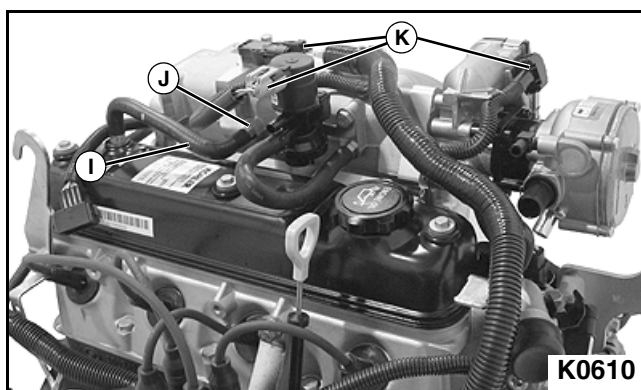

Figure 3-63
5. Connect PCV hose (I) to intake manifold port (J). **See Figure 3-63.**
6. Connect three electrical connectors (K) to intake manifold sensors.